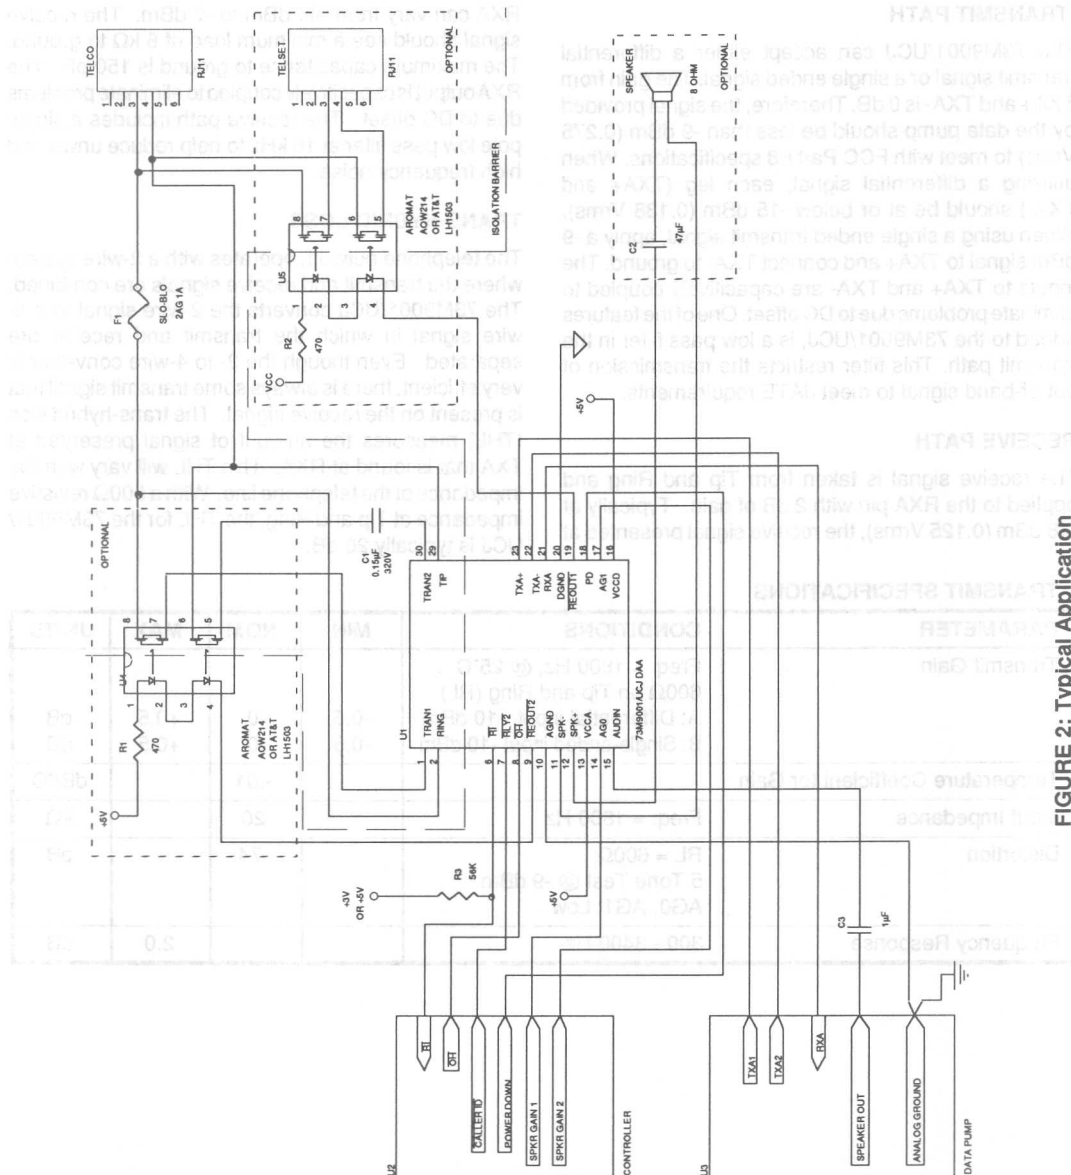

FIGURE 2: Typical Application
In the application shown in Figure 2, the 73M9001/UCJ is being utilized for a high speed fax/modem with caller ID notification. When a call comes in on the phone line, the Ring Indicator (RI) becomes active. The controller responds by driving the Power Down (PD) low and the Relay #2 (RLY2) low. This wakes the DAA from its standby mode and capacitively connects the phone line to the 73M9001/UCJ to receive the Caller ID information. This information is then sent to the data pump through the Receive port (RXA). After receiving the Caller ID, the controller drives the RLY2 pin high. If the controller decides to answer the call, it drives the Off Hook (OH) low. The DAA goes off-hook thus enabling data to be sent from modem to modem via the Receive and Transmit (TXA+, TXA-) ports.